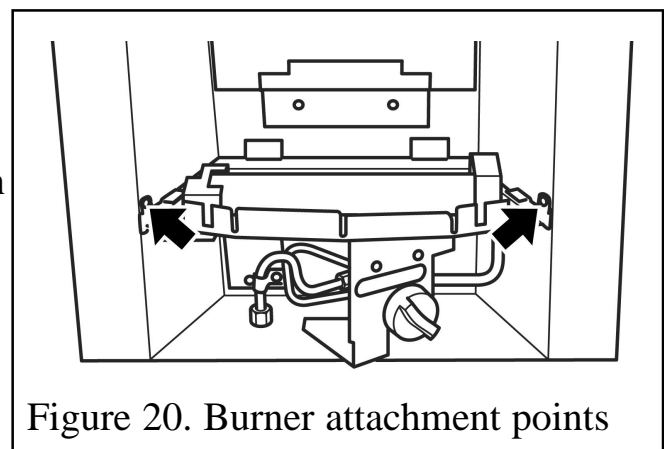
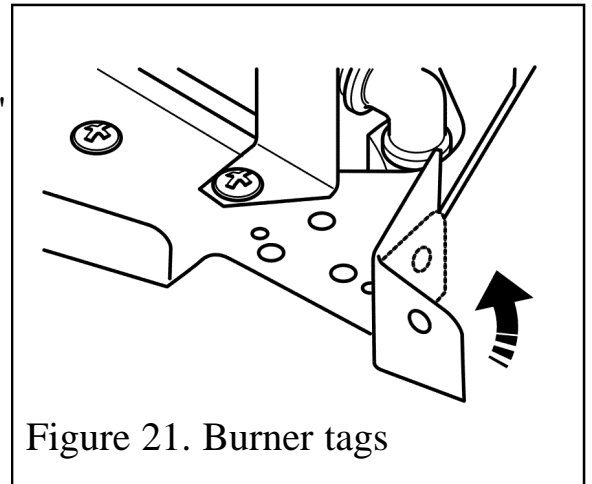

Figure 20. Burner attachment points
Figure 21. Burner tags
1. Refit the burner unit to the hotbox using the two screws removed previously. The burner securing points should be on the inside of the hotbox as shown in figure 20. If the fixing points are on the front of the hotbox flange then fold back the two burner tags (See figure 21).